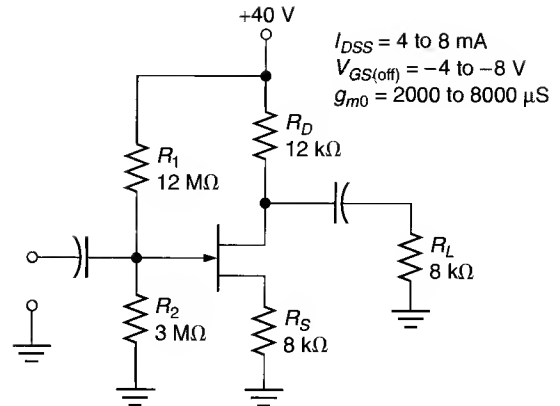

FIGURE 12.63
26. Determine the ranges of I_D and V_{DS} for the circuit shown in Figure 12.63.
34. Determine the range of A_v values for the circuit shown in Figure 12.63.